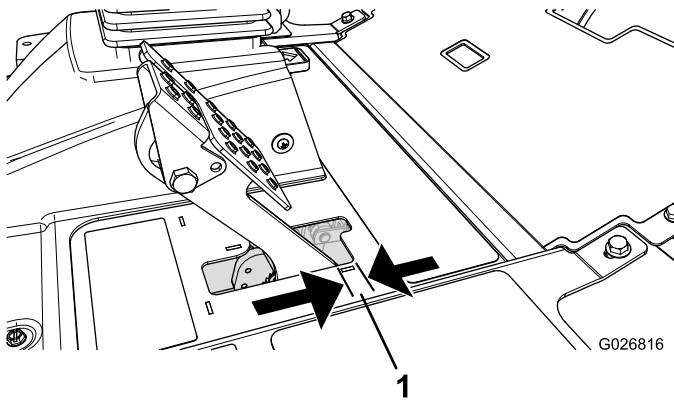

Figure 138
4. Lightly press the brake pedal; and measure the distance the pedal moves without resistance (Figure 138).
**Note:** Adjust the brakes if there is more than 2.5 cm (1 inch) of free travel (Figure 138) of the brake pedal, or if more parking-brake force is required.
6. Tighten the rear nuts to move the cable backward, until brake pedal has 6 to 13 mm (1/4 to 1/2 inch) of free travel (Figure 138), before the parking brake engages the wheels.